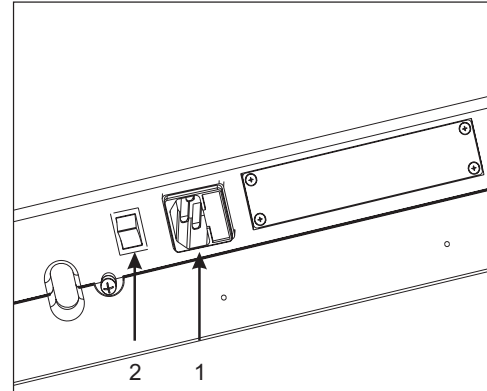

Fig. 8
9.1 ON/OFF switch (Shown as 2 in fig. 8 above)